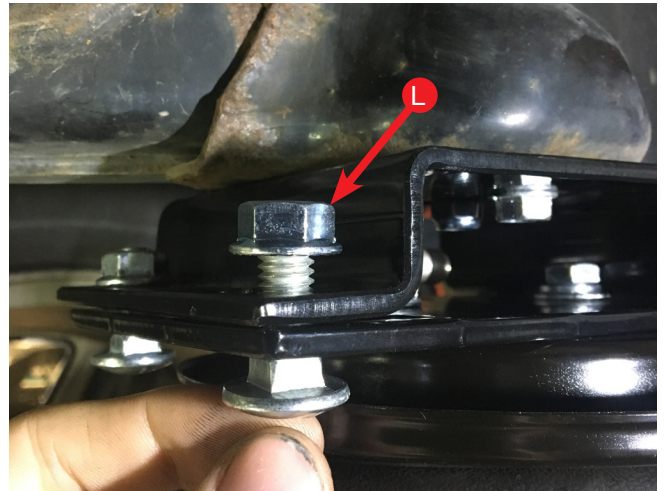

Fig. 28
7. Raise the axle back up while aligning the air spring mounting plate's carriage bolts, with the frame mounting bracket holes. Cap all carriage bolts, once in position, with 3/8" serrated lock nuts (L) and tighten finger tight but loose enough for adjustment if necessary (Fig. 28).